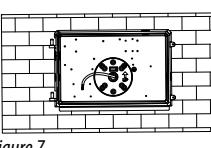

Figure 7
7. Pass the wire through the back hole. (Figure 7)